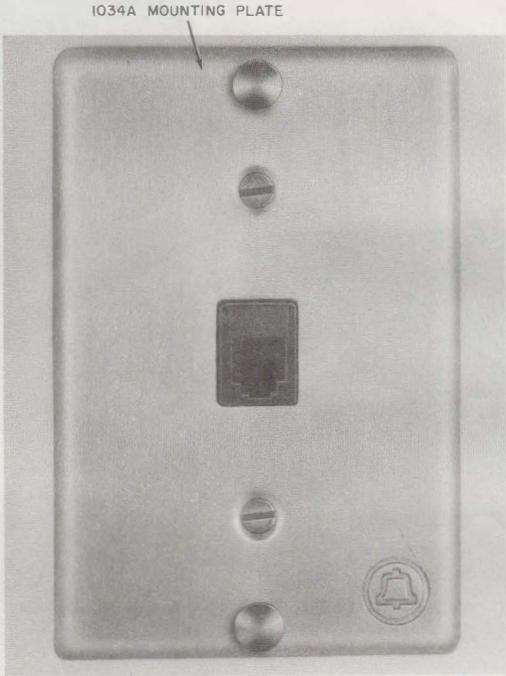

Fig. 9—630A4 Connecting Block (Includes Mounting Plate)
(4) Attach mounting plate (Fig. 9) using the two 3/16-inch 800413577 (P-41357) cover mounting screws or two 5/16-inch 840705008 flathead machine screws from the fastener package.
(5) Check for continuity on each lead by inserting 523A4 plug and connecting test set.